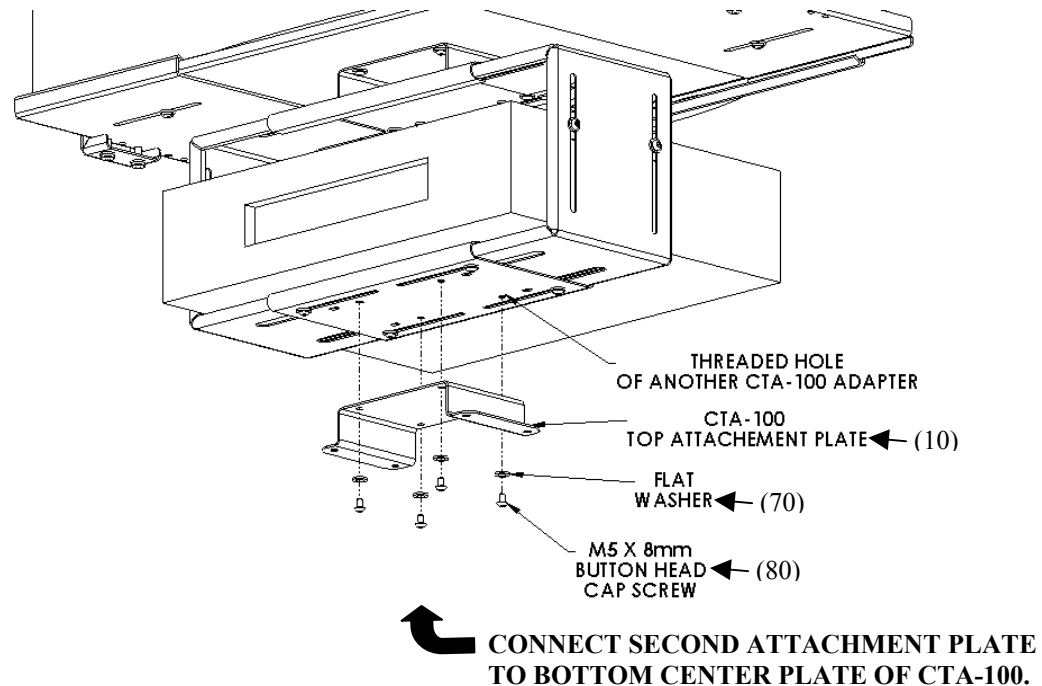

Figure 9. Install Second Attachment Plate
2. Install the second attachment plate (10) on the center plate (20) of the first CTA-100 unit. Use four flat washers (70) and four M5 X 8mm button head cap screws (60). Tighten the screws. See Figure 9.
3. Attach the second CTA-100 to the second attachment plate (10). Use four flat washers (70), four M5 X 8mm button head cap screws (60). Tighten the screws.
5. Adjust the side plates (30) and adjustment plates (40) as needed to secure your VCR/DVD safely in the CTA-100.
6. Tighten all cap screws (60).